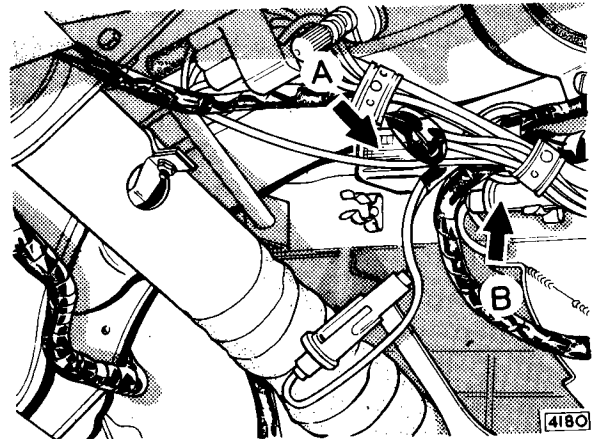

Fig. 88 (A) Hazard warning light unit 'A' and in-line fuse 'B'
See Fig. 88 (A) for the location of the hazard warning unit.